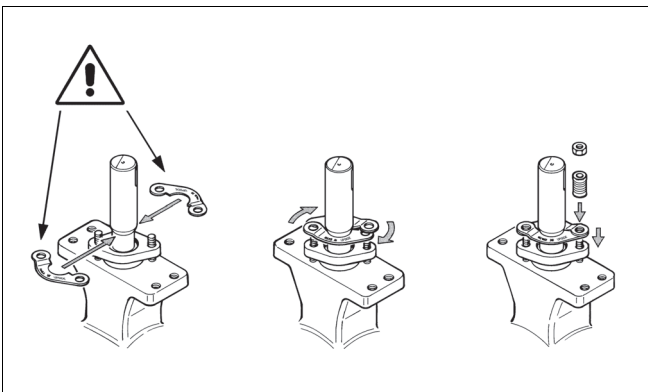

Fig. 10 Mounting the retaining plates
- Unfasten the nuts (25) and remove the disc spring (TA-Luft) kits (43), the retaining plates (42) and the gland (9).
- Remove old packing rings (20). Do not damage the surfaces of the packing ring counterbore and shaft. It is not necessary to change anti-extrusion ring (22).
- Mount the retaining plates with the text UPSIDE on top (see Fig. 10).